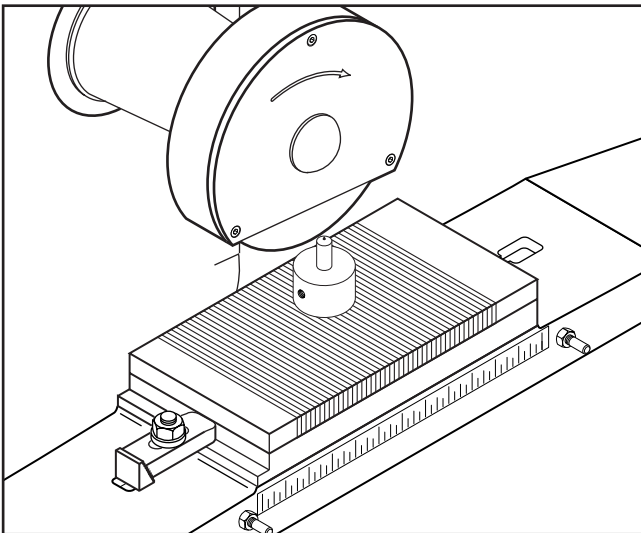

Figure 7. Dressing fixture mounted on magnetic chuck.
1. Insert the Dressing Diamond into the Dressing Fixture and attach the fixture to the table so that it is just right of the center line of the grinding wheel. See Figure 7.